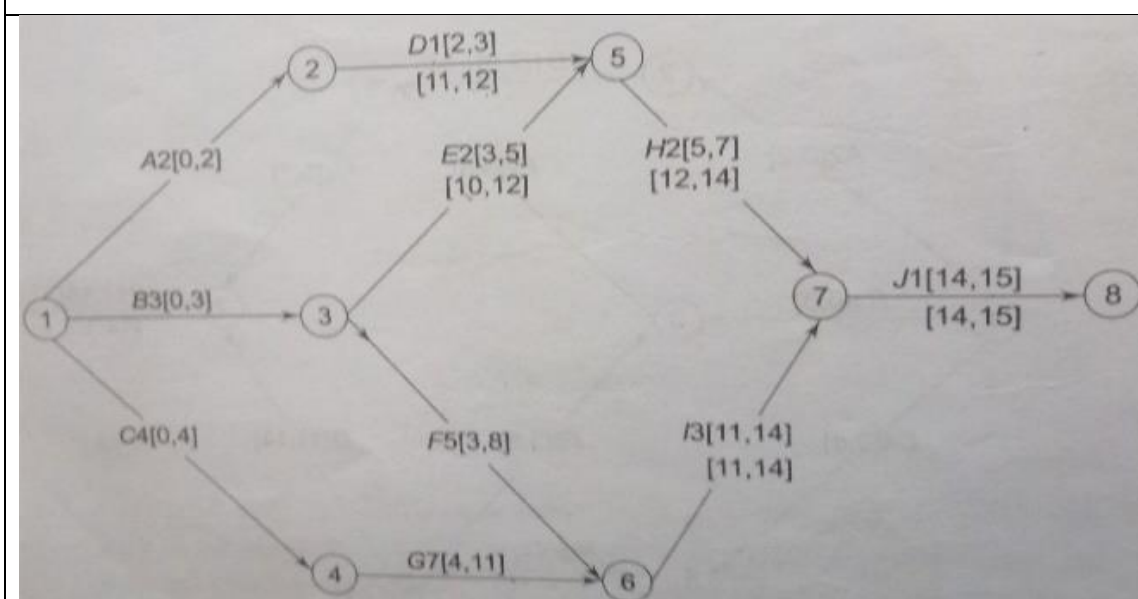

Figure 13
Step 2 : For activity J to be started as late possible on week 14, its preceding activities H and I should over as late as possible on day 14. Therefore, the latest finish for H and I will be 14th week and latest start will be 12th and 11th week respectively for H and I activities (refer figure 13).